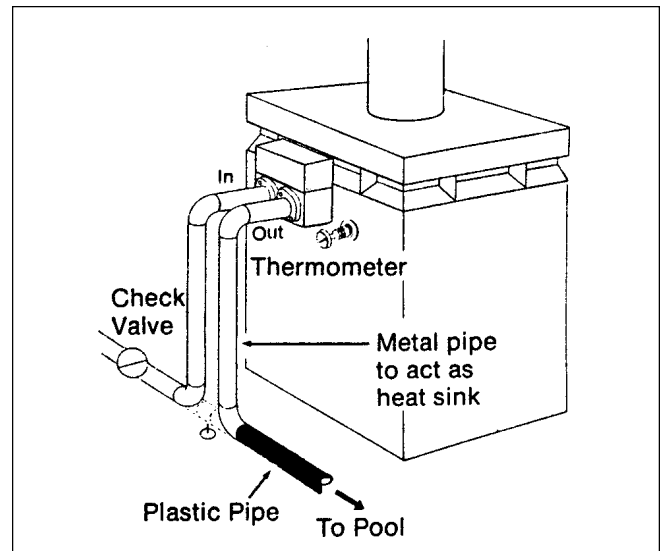

Figure 19. Thermometer Placement.
Before checking the temperature rise, make sure that the pool filter is clean. If necessary, clean all components of the filter system. Temperature rise is measured in the outlet of the far-right tubes when facing the inlet/outlet water heater. To measure the temperature rise, turn off the filter pump and remove the 1/4" brass plug to the right of, and just below the level of the outlet water pipe. This is mounted flush with the heater jacket (see Figure 19). With the plug removed, install the special thread adapter and "Pete's" plug fitting and insert a pocket thermometer. A temperature rise measurement kit is available through your Jandy distributor. See section 10 of this manual for the correct kit number.
2. Install a thermometer in the 1/4" NPT threaded opening in the front header casting as shown in Figure 19.